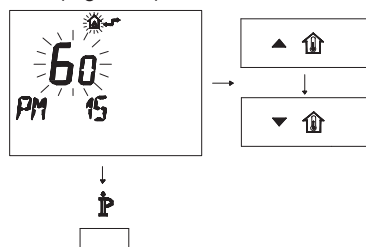

Fig. 7.17
- Modify the programmed SET by acting on buttons $\blacktriangle \uparrow$ or $\blacktriangledown \uparrow$ until a **setting of 60** is displayed, wait for the number programmed to flash (Fig. 7.17).